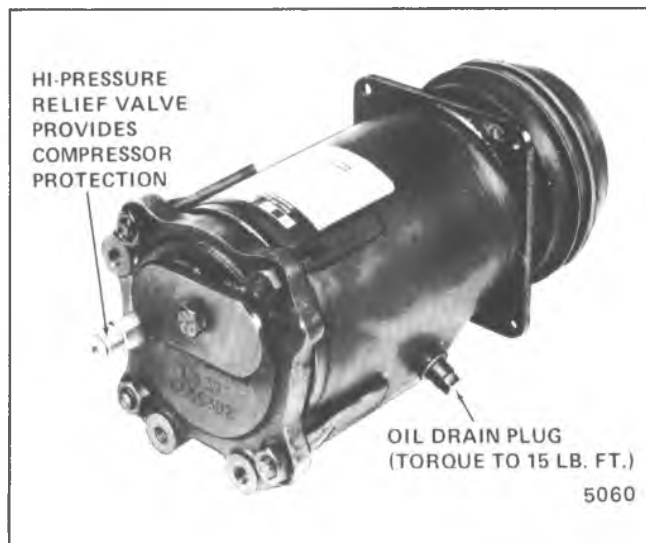

Figure 1D-1 A-6 Compressor
When servicing the compressor, remove only the necessary components that preliminary diagnosis indicates are in need of service. Refer to the AIR CONDITIONING section and Figure 1D-2 and Figure 1D-3 for information relative to parts nomenclature and location.
Removal and illustration of external compressor components and disassembly and assembly of internal components must be performed on a clean workbench. **The work area, tools, and parts must be kept clean at all times.** Parts Tray J-9402 (Figure 1D-38) should be used for all A-6 internal compressor parts being removed, as well as for replacement parts.
2. Keep clutch hub from turning with Clutch Hub Holder J-25030 or J-9403, and remove locknut from end of shaft using Thin Wall Socket J-9399 (Figure 1D-4).
3. Thread Clutch Plate and Hub assembly Remover J-9401 into hub. Hold body of Remover with a wrench and tighten center screw to remove Clutch Plate and Hub assembly (Figure 1D-5).